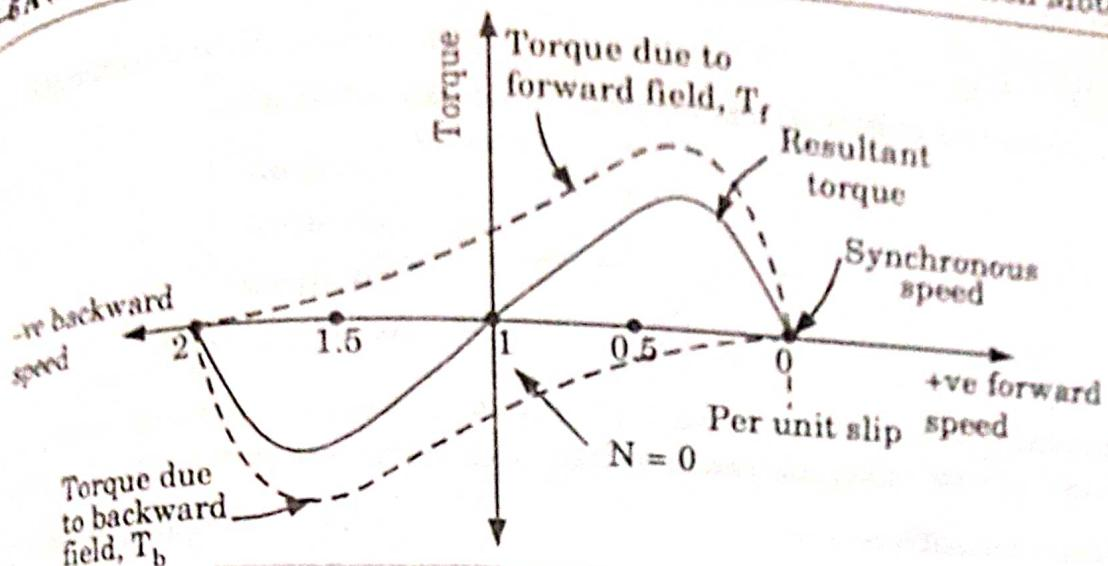

Fig. 5.3.3. Torque-speed characteristic.
1. Fig. 5.3.3 shows torque-speed characteristic of a single-phase induction motor based on constant forward and backward flux waves.